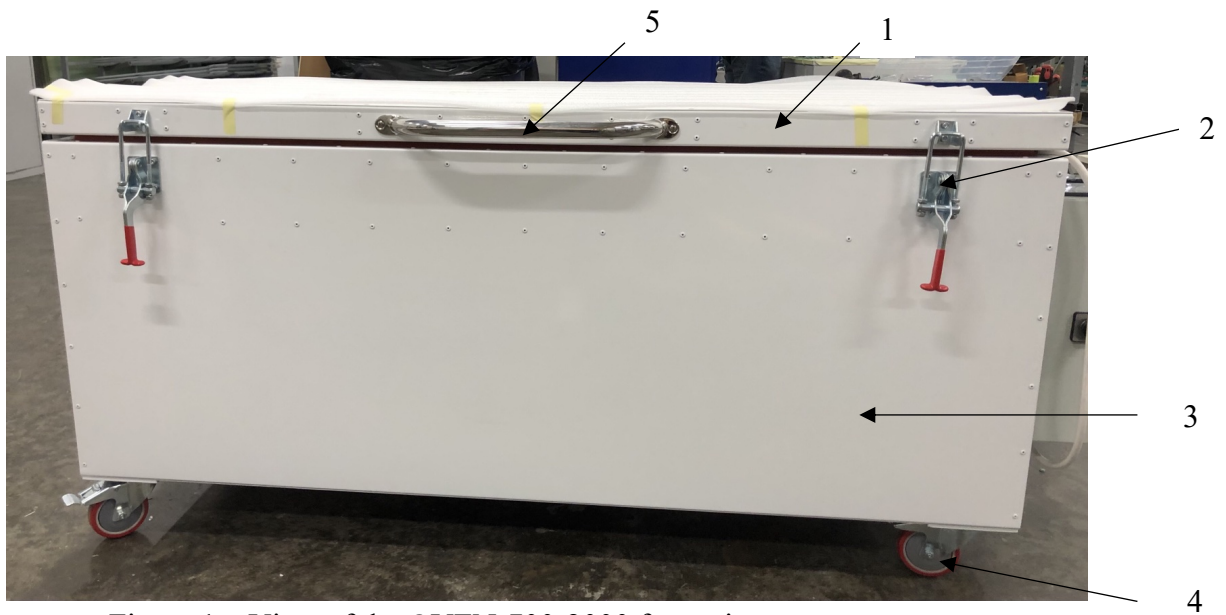

Figure 1 – View of the OVEN-700-2000 front view.
The oven structurally consists of a body with a lid, made of aluminum sheets on the outside and stainless-steel sheets on the inside. A heat-insulating material (a blanket made of ceramic fiber) is laid between the sheets of metal (Fig. 1). For the convenience of movement, swivel wheels are installed on the bottom side (item 4, fig. 2).
A silicone seal is installed around the perimeter of the lid (Fig. 2, item 3) for a tight fit to the body. The lid is fastened with three curtains (Fig. 2, pos. 1) and attached with two latches to the body (Fig. 1, pos. 2).